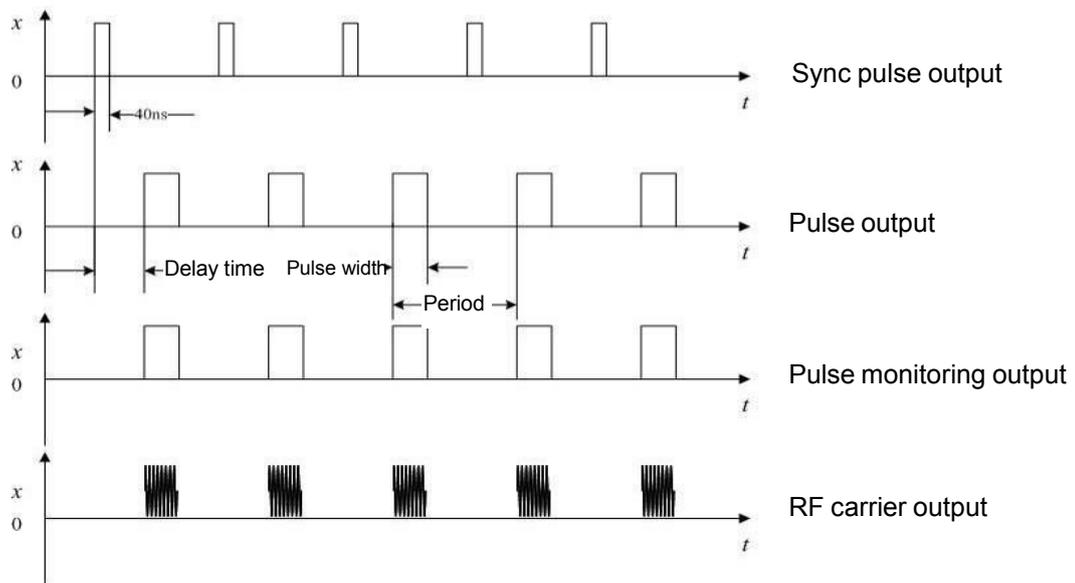
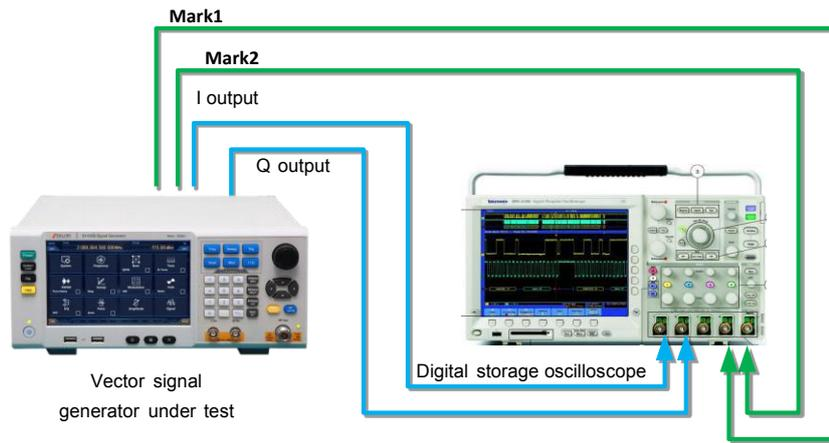

Figure 3.18 Internal Auto mode
Figure 3.22 Triggering test
Activate pulse modulation and set the pulse generator inside the instrument as the pulse modulation source (Figure 3.18). No external pulse signals are required. At the same time, activate the automatic trigger mode of internal pulse, which is not synchronized with other trigger signals. The parameters of the pulse signals can be set by the user through the modulation configuration window (Figure 3.22).
Step 1. Connect the instrument as per Figure 3.22.